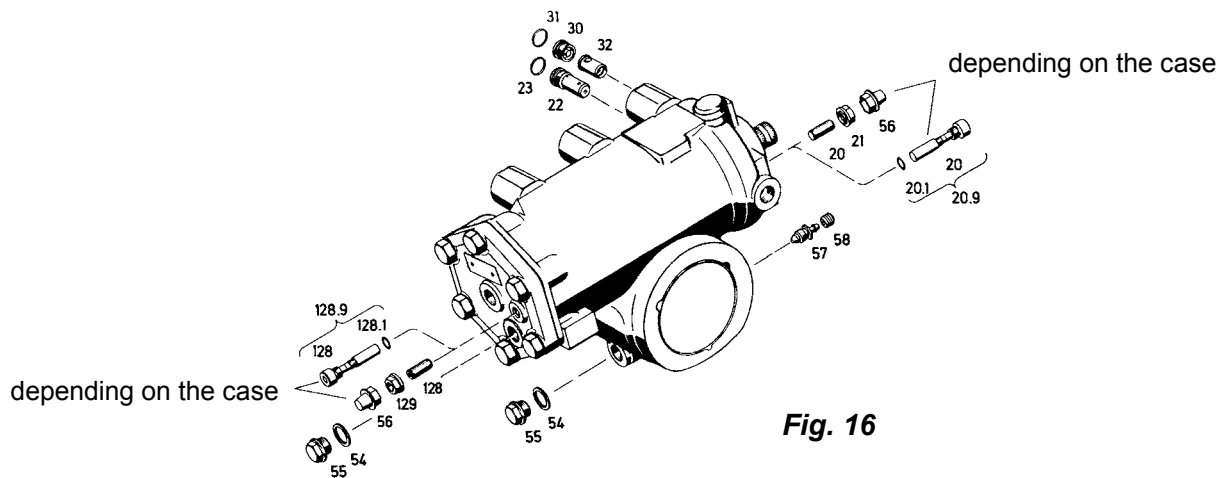

Fig. 16
- 1 Valve insert (22) - Pressure relief valve**
Unscrew the valve insert (22) from the housing (**Fig. 16**) and remove O ring rests. If the pressure does not conform to the specified value or if there is any leakage, replace the complete valve insert (22).